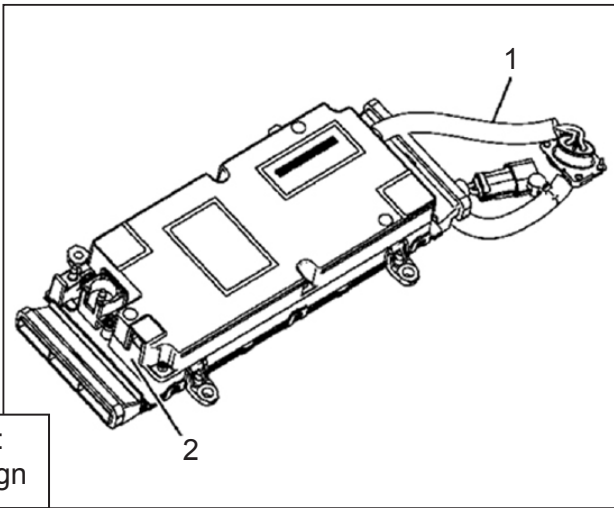

Figure 1:
This 2nd design no longer has a Battery Positive and Negative (300V) Pigtail (1), and the 10-way connector (2) is relocated. See Figure 1 and 2.